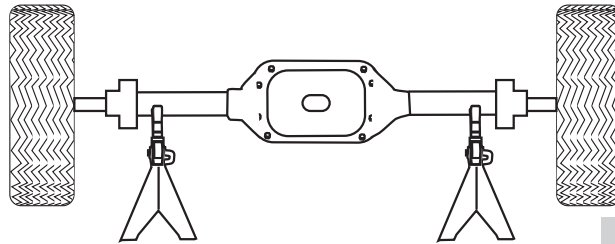

Fig. 1
1. Jack up the rear of the vehicle or raise on a hoist. Support the frame with safety stands (Fig. 1).